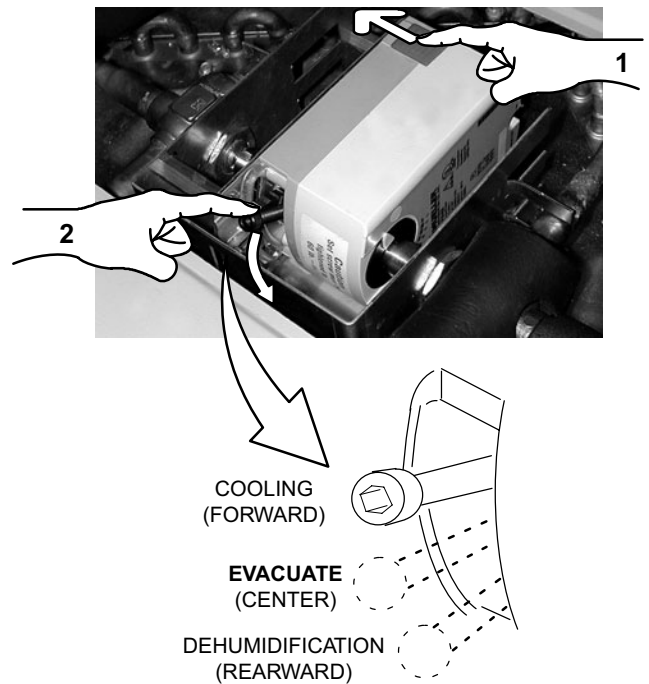

Figure 7
The 3-way diverting valve actuator shaft setscrew (see figure 7) is factory set and is not to be adjusted.
1. Set the 3-way diverting valve actuator shaft to the center (evacuate) position for leak testing and evacuation (see figure 7). **IMPORTANT! The actuator shaft must be set as described to allow the EDA to evacuate more quickly.**
Prior to starting the outdoor unit for charging, be sure the 3-way valve is energized and in the “cooling” (forward) position (see figure 7).
NOTE - Prior to starting the outdoor unit for charging, set the thermostat to call for cooling (dehumidification OFF). It will take about 90 seconds for the 3-way diverting valve to energize and shift to the cooling position. To ensure that the 3-way diverting valve is energized and in the “cooling” (forward) position, observe the position of the 3-way diverting valve actuator shaft setscrew in figure 7; if properly shifted, the setscrew will be in the forward position.